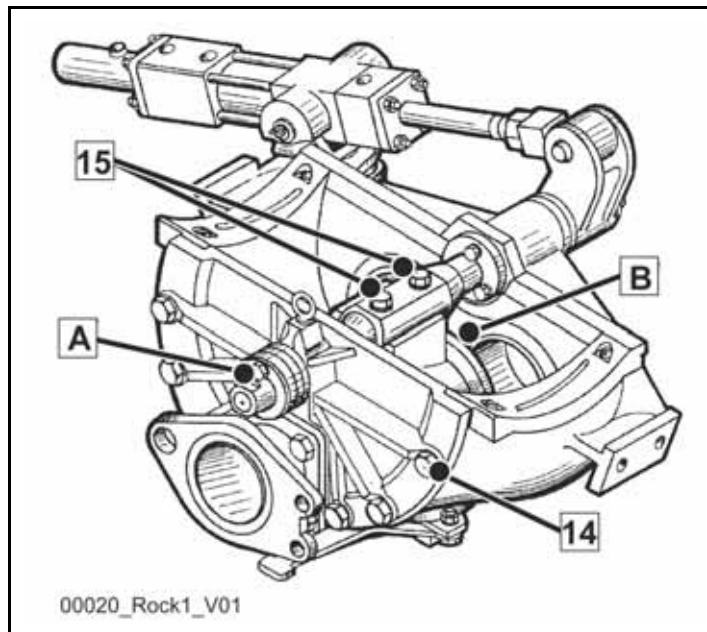

Fig. 338 Example
Regularly make sure that the cover screws (14) and clamping screws on the swivel head (15) are tight, in accordance with the maintenance schedule (**Fig. 338**).
Caption (Fig. 338)
The cutting ring and wearing insert on the housing lining are worn unevenly due to external influences (e.g. varying types of concrete) and different stresses in sub-areas (area "B", (Fig. 338)).